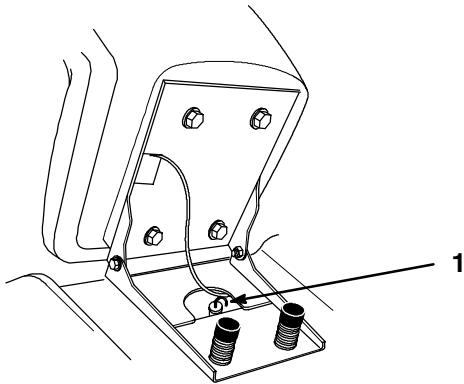

Figure 42
4. Clean around the transmission dipstick (Fig. 42) so dirt cannot fall into the filler hole and damage the transaxle.
5. Pull out the transmission dipstick and wipe the metal end clean (Fig. 42).
6. Slowly pour the specified refill capacity of oil into the filler tube (Fig. 42).